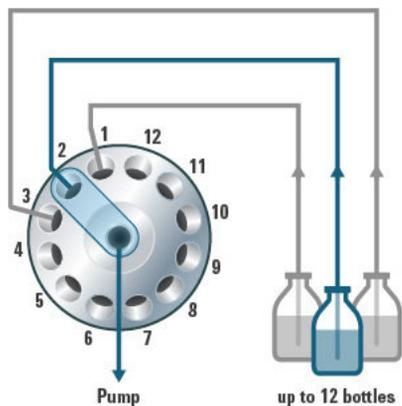

Figure 5 Solvent Selection (Schematic Setup)
The 12-position/13-port solvent selection valve (G4235A) can be used for solvent selection (flow rate < 10 mL/min) as illustrated in Figure 5 on page 20. It offers automated access to 12 different eluents.
tive analysis of pesticides as shown in **Figure 5**. Compared to conventional ESI, an almost 6-fold improvement in sensitivity was realized.
**Figure 5.** LC/MS analysis of a mixture of pesticide standards in methanol/water using Agilent Jet Stream technology on an Agilent 6460 triple quadrupole LC/MS system. The table shows the relative gain in ion signal intensities using Agilent Jet Stream technology compared to conventional ESI.